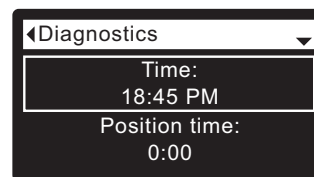

FIG. 100
8. Press the SELECT (O) button to display the Diagnostics screen (See Figure 100).